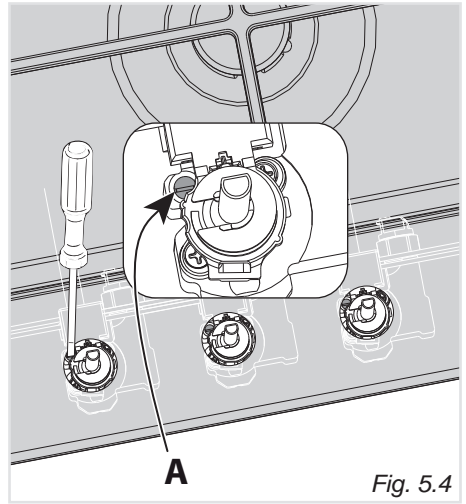

Fig. 5.4
- With a small flat screwdriver turn the screw "A" to the correct regulation (fig. 5.4).